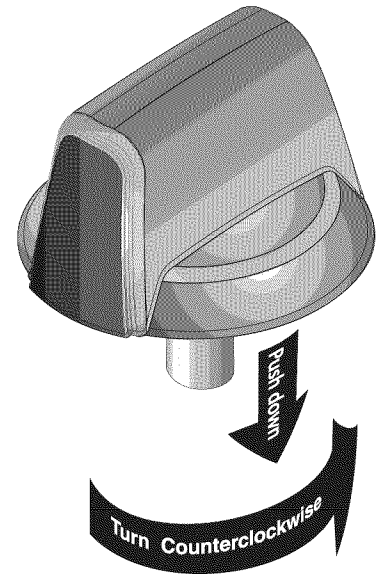

Figure 2
3. Release the knob and rotate to the **LITE** position (Figures 2 & 3). Note: All electronic surface igniters will spark at the same time. However, only the selected surface Burner will lite.
7. When both zones are lit, continue to turn the control knob **counterclockwise** between dual HI & LO to adjust to the desired flame size for both burners together. Note: The markings between the **Dual HI and LO settings** on the control knob adjust the flame size for both zone A & B (Refer to Figure 2 or 3). **DO NOT** cook with any of the surface control knobs in the LITE position (The electronic ignitor will continue to spark if the knob is left in the LITE position).